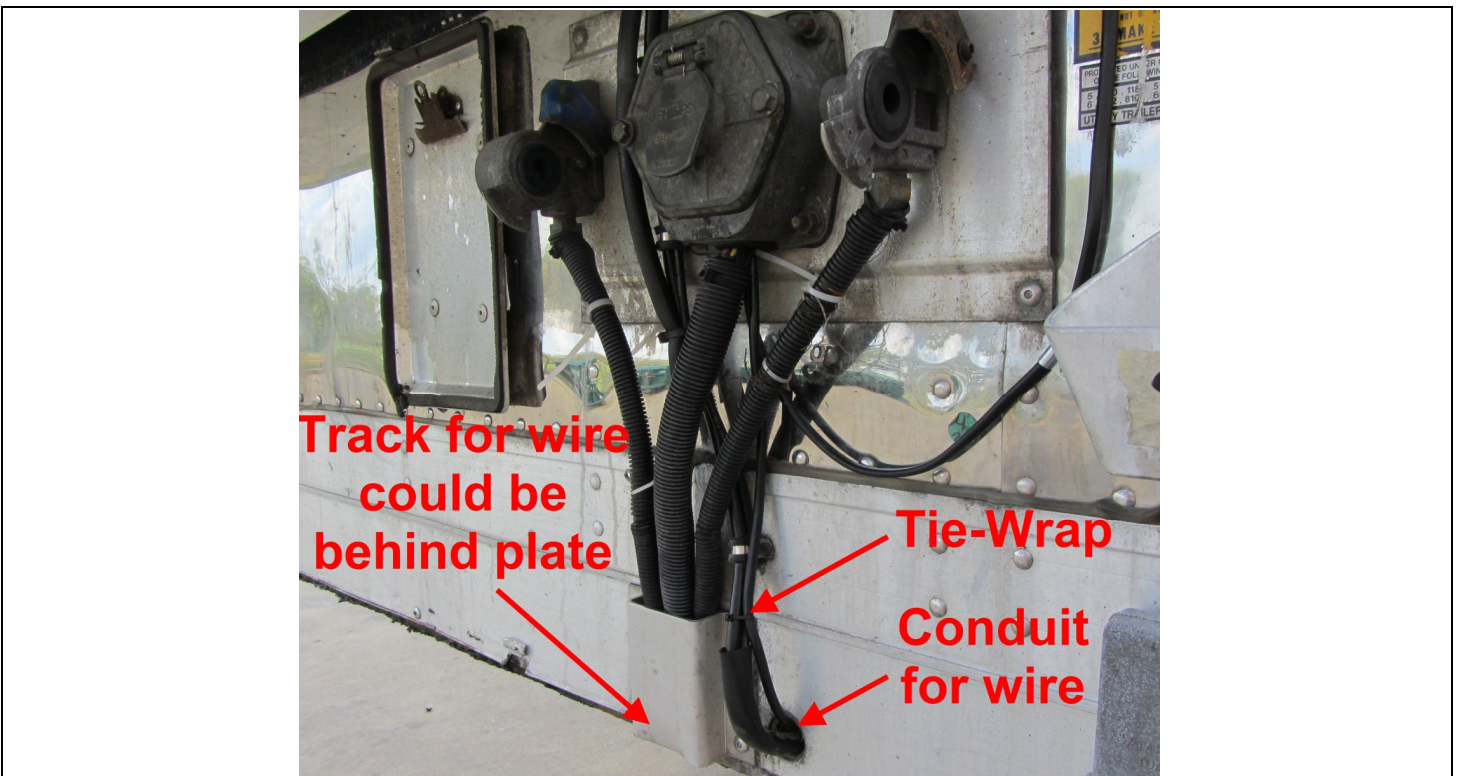

Figure 30
- Run the 3 wire cable down through the front of the trailer in conduit or space provided by the trailer manufacturer. Make sure the cable stays inside the conduit or track between the tractor and the trailer. Failure to do so may end up causing the wire to be damaged. See Figure 30